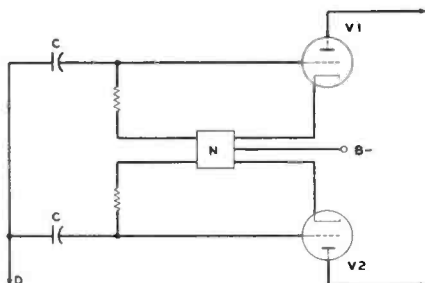

Fig. 2. Temporary change for balancing.
nected to the plates of the driver tubes are unsoldered at points A and B, and connected as shown in Fig. 2. D is connected to a low-voltage AC source of 1 to 6 volts (the ungrounded terminal of the heater circuit). Now both output tubes are driven in parallel and, therefore, the amplifier should deliver no power to the speaker if it is properly balanced. If it does, the balance control, which is usually incorporated in the biasing network (N), should be adjusted for minimum output. The residual output is a measure of total balance: the lower the output, the better the balance. If an audio signal generator